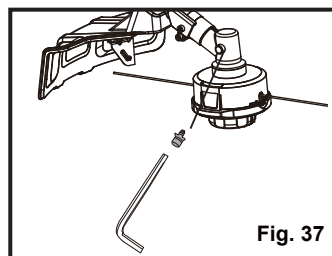

Fig. 37
LUBRICATION (See Fig. 37)
- Remove the screw and check the level of grease (Fig. 37).